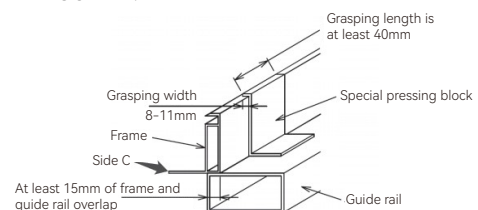

Figure 3 Requirements for Installation of Clamp for Overlapping Long Frame of Guide Rail
⑧ The PV module shall be fixed by using professional solar clamp (as shown in Figure 3), and the overlapping part between the surface C of PV module and the guide rack shall be $\geq 15\text{mm}$. If improper clamp or incorrect installation method is used, the warranty of HY SOLAR will be invalid.
⑨ For the modules with the length of more than 2.2m or the width of more than 1.3m, it is recommended to use the clamp with special anti-skidding design. If it is attached to the arc-shaped pressing surface of side A of the frame, or with the structure design of clamping, the clamp shall meet the requirements of length $a \geq 60\text{mm}$, thickness $\geq 5\text{mm}$, material 6005-T6, $Rp0.2 > 225\text{MPa}$, and $Rm265\text{MPa}$. Technical requirements and details of pressing clamps can be consulted by after-sales service team of HY SOLAR.